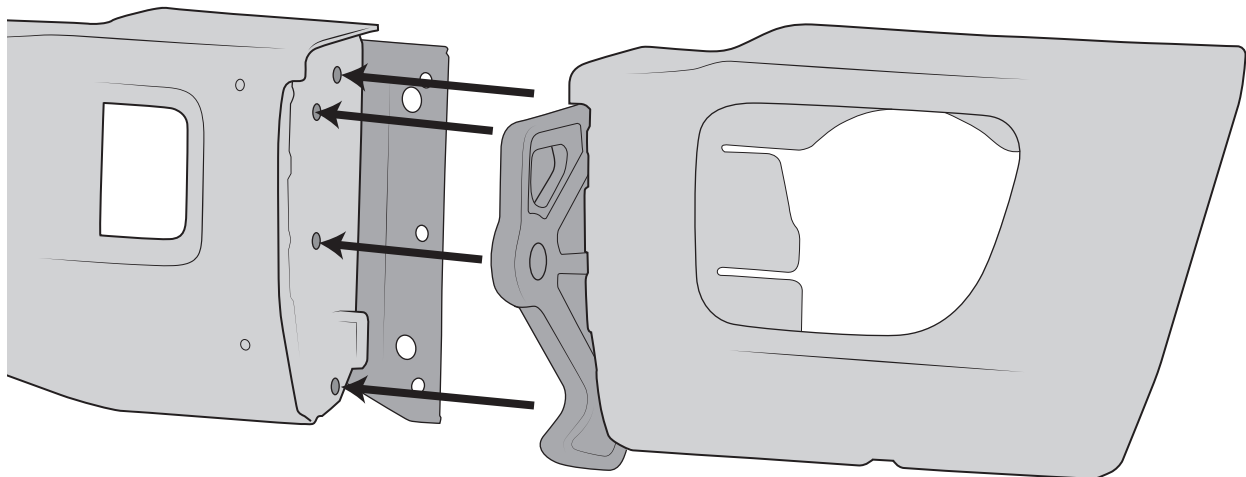

Figure 20
2. Lift the corner assembly onto the bumper center section inserting the four bolts from previous step into the corresponding holes on the bumper center section (fig. 20). Secure with M12 nuts and hand tighten.